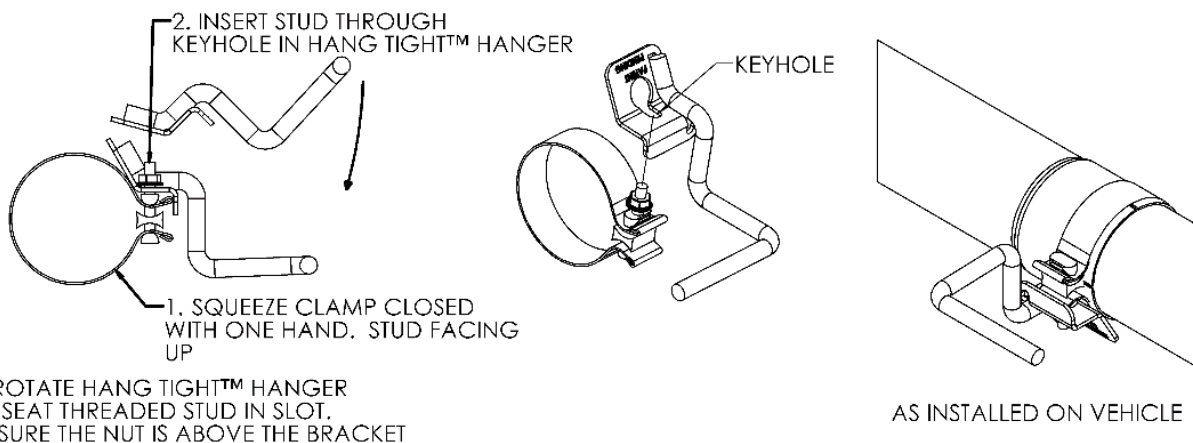

Figure 1 (Hanger not as shown)
3. Slide the **Front Hang Tight™** (see **Figure 1** for Hang Tight™ instructions) over the inlet of the **Muffler Delete Pipe**. Then install the **Muffler Delete Pipe** over the **Extension Pipe** and place the **Front Hang Tight™** into the OEM rubber hangers above the inlet.